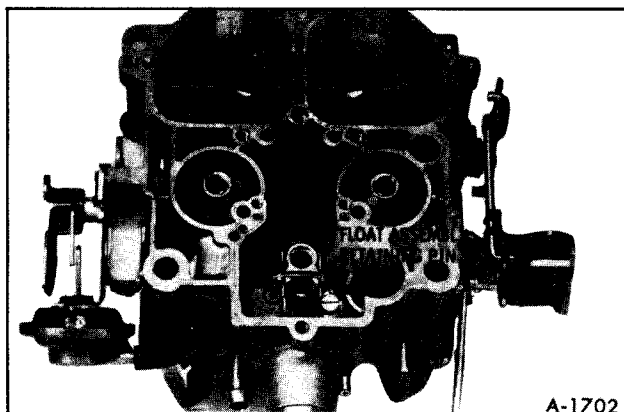

Figure 17-Float Assembly
7. Remove float assembly and float needle by pulling up on retaining pin. Remove float needle seat and gasket (figure 17).